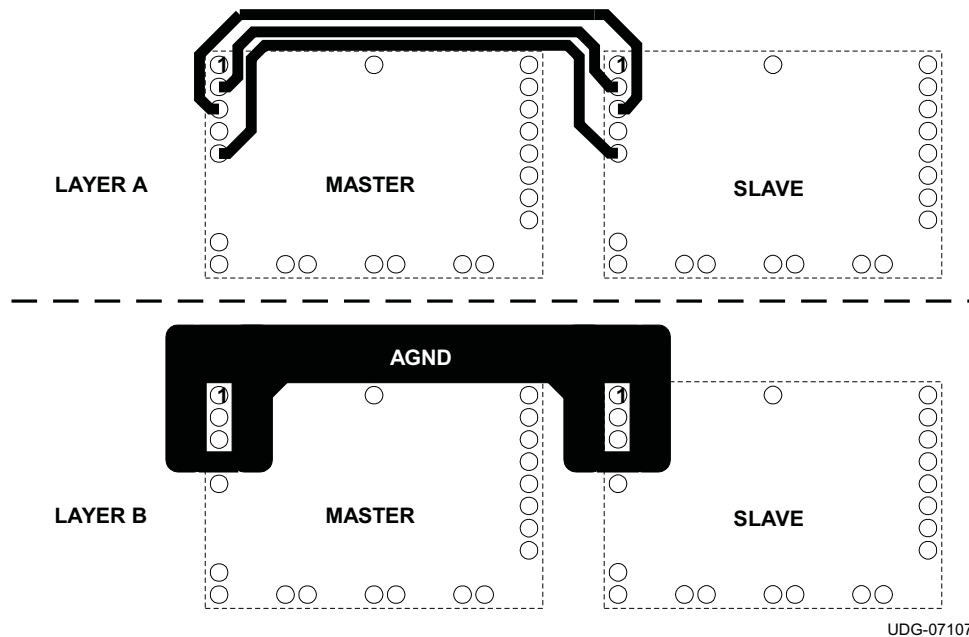

Figure 27. Recommended Layout of Inter-Connection Pins Between Two Current Sharing Modules
(1) For more details on the pin descriptions, refer the Pin Functions table.
(2) See Layer A in Figure 27 for recommended layout
(3) See Layer B in Figure 27 for recommended layout
In current sharing applications the V_I pins of both modules must be connected to the same input bus. The V_O pins of both modules are connected together to power the load. The GND pins of both modules are connected via the GND plane. Four other inter-connection pins are connected between the modules. Figure 27 shows the required layout of the inter-connection pins for two modules configured to share current. Notice that the Share (pin 2) connection is routed between the Comp (pin 3) and CLKIO (pin 5) connections. AGND (pin 4) should be connected as a thicker trace on an adjacent layer, running parallel to pins 2, 3 and 5. AGND must not be connected to the GND plane.